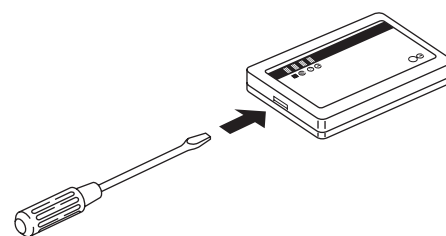

Fig. 7-14
- (1) Insert a standard screwdriver into the gap under the signal receiving unit and pry off the cover (Fig. 7-14)
- (2) Attach the signal receiving unit with the 2 small screws provided.
- (1) Insert a standard (minus) screwdriver into the slot on the lower side of the signal receiving unit and pry off the back case as shown in Fig. 7-14.